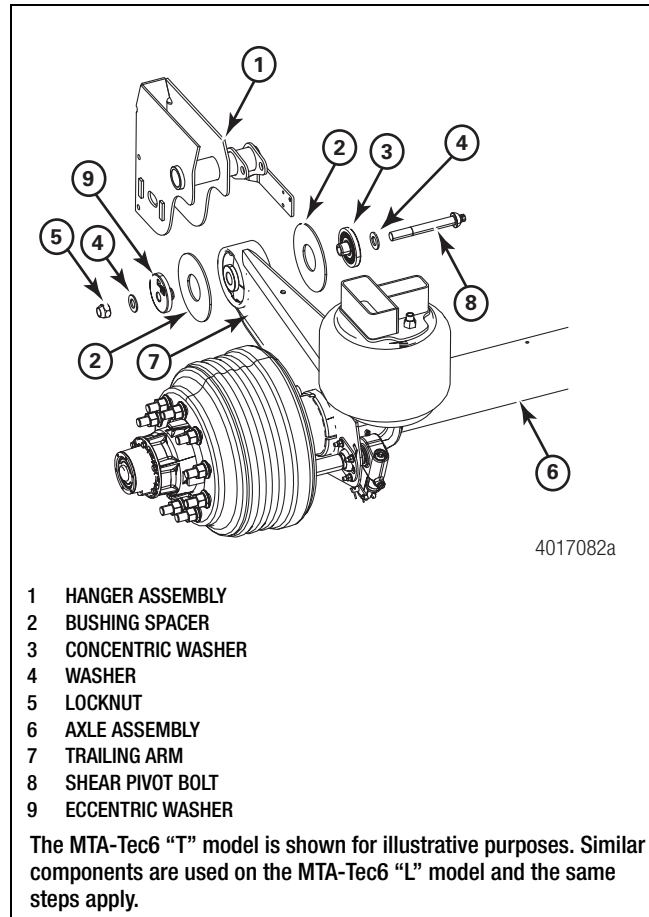

Figure 6.7
5. Grip the head of the shear pivot bolt using channel-locks or a pipe wrench and use an impact gun on the nut to remove the bolt. Figure 6.7.